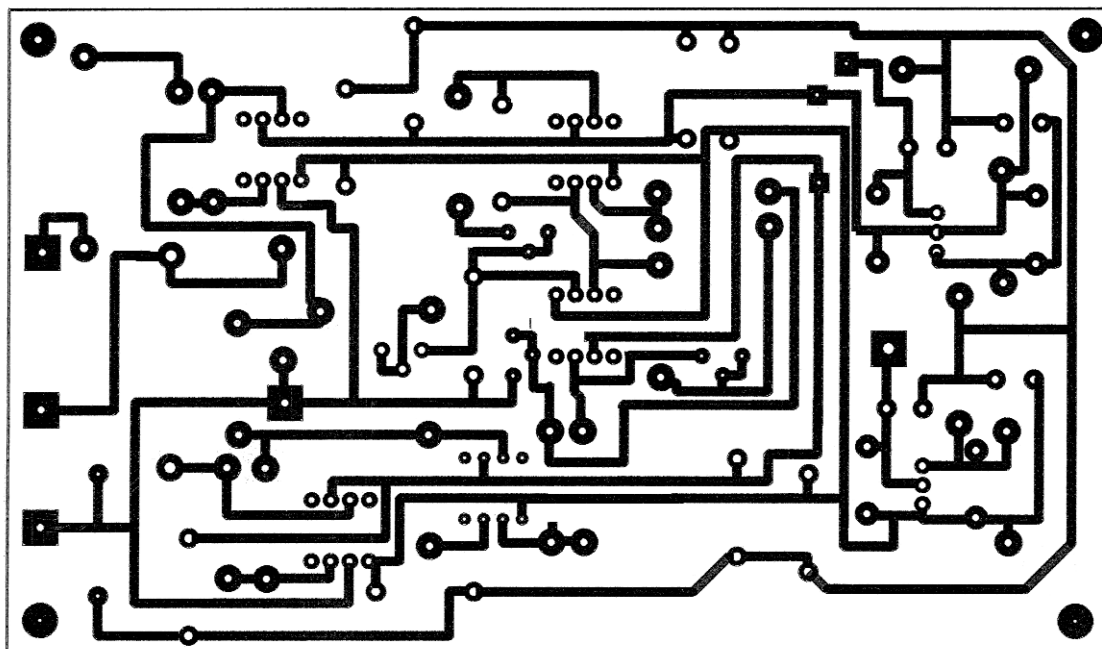

FIGURE 3:
Connection dots are missing in Fig. 3, at the junction of R1/C2/R2/D2 in both supply regulators. Figure 7 is not really the printed circuit layout, as indicated in the text—it is a stuffing guide. Anyone wishing to make a PC board must first invert the layout shown. This was a bit difficult to ascertain since the stuffing-guide component designations didn't correlate to those in his schematics.
1) Yes, a dot is missing in Fig. 3 (supply regulators) at the junction of R1/C2/R2/D2.
2) Figure 7 is indeed a stuffing guide. The printed circuit negative was not included in the article. Both the printed circuit and the stuffing guide have not been modified to conform with the final version as shown on the schematic. Neither has been fully implemented, and Fig. 3 should be considered a draft only.